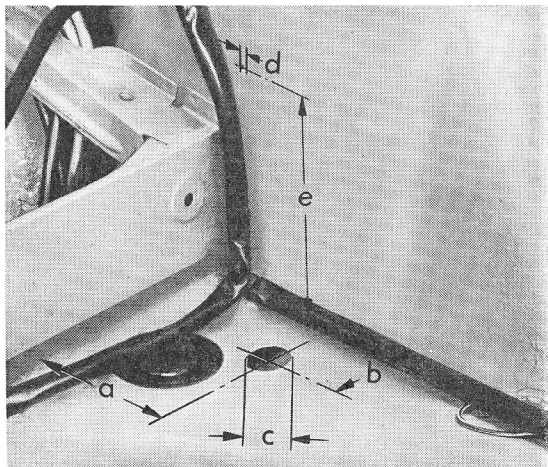

Figure 8
- 9 – Drill holes for combustion air intake pipe and pipe securing screw (see Figure 8 for dimensions).